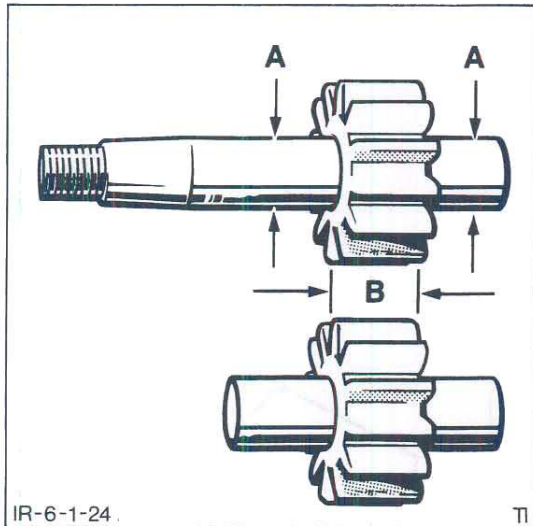

Figure 24
- (i) Gear widths of drive and driven gears must be within 0.0002 in (0.005 mm) of each other to ensure satisfactory pump efficiency, see Figure 24.
- (ii) Journals must be within 0.0005 in. (0.013 mm) of each other, Figure 24.